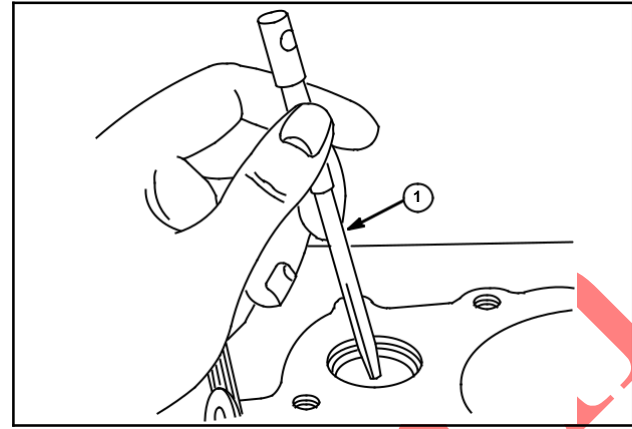

Fig. 17
2. Insert pilot (1) in intake valve guide, Fig. 17.